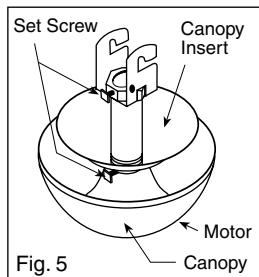

Fig. 5
- B.** Back out screw in neck of fan motor housing and hanger bracket so pipe can be screwed in. Screw the pipe into the fan until tight (at least $4\frac{1}{2}$ turns). Feed wire through canopy and canopy insert and let the canopy rest on the neck of the motor. Slide the canopy insert over the pipe. Feed wire through the hanger bracket and screw hanger bracket onto pipe until tight (at least 3 turns). Then use pliers to tighten both the hanger bracket and pipe together. Securely tighten the set screw in bracket and motor. See Figure 5.